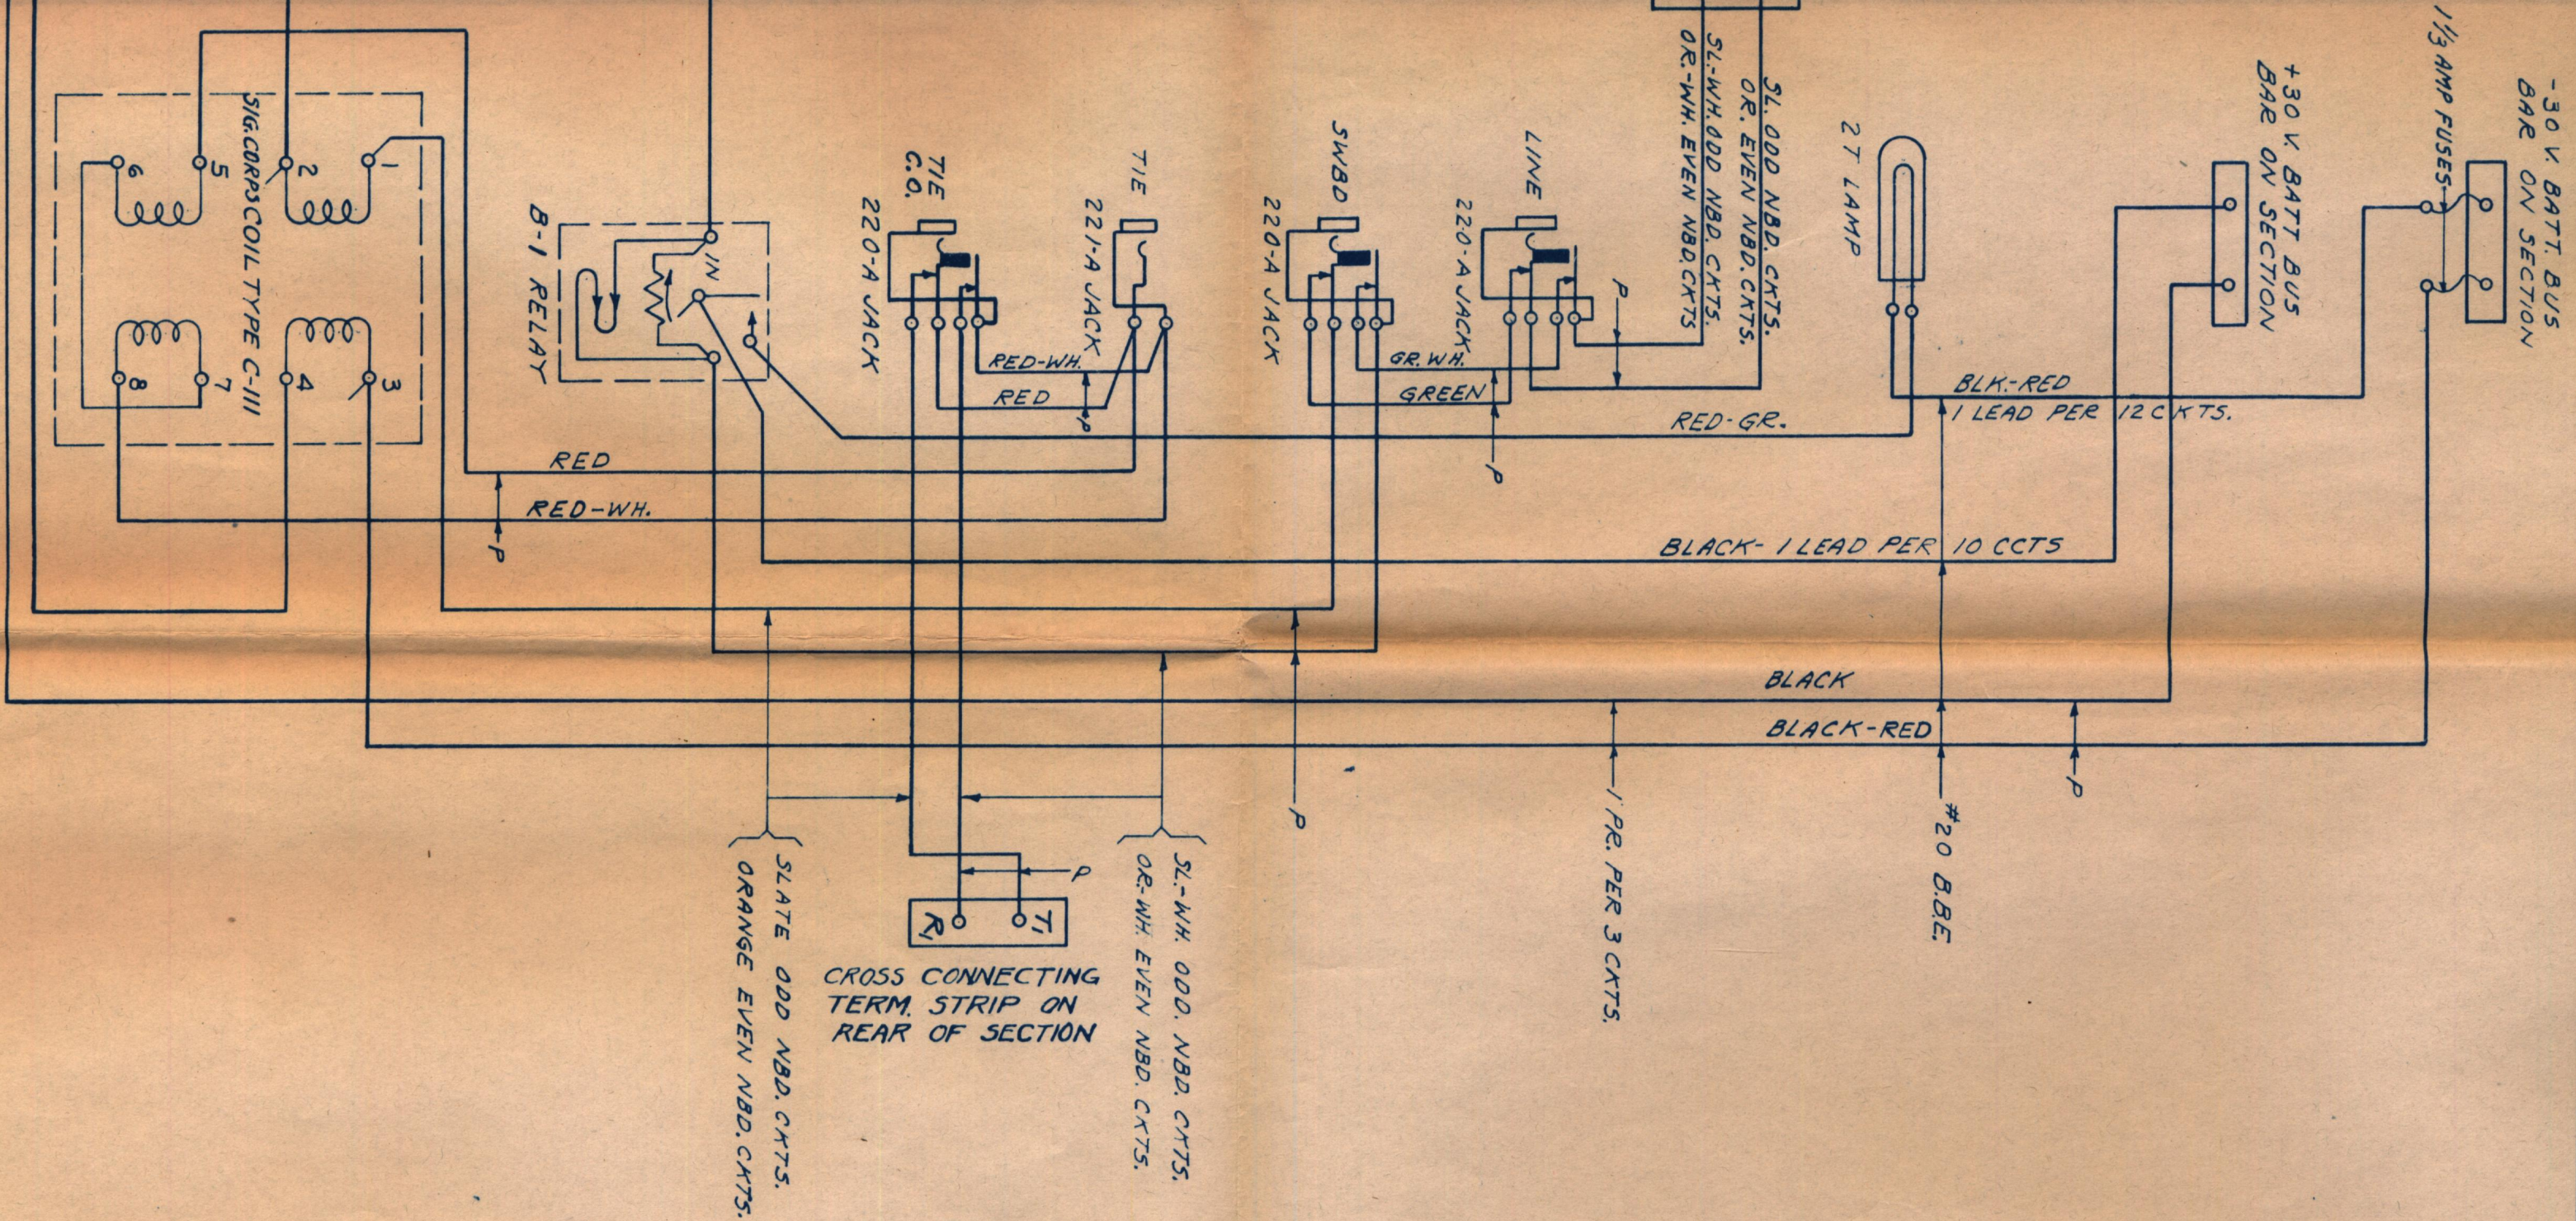

FIG. 1
- B Battery feed circuits, Dwg. SC-D-659, Fig.1
- L Lamp circuits, Dwg. SC-D-1172, Fig.1